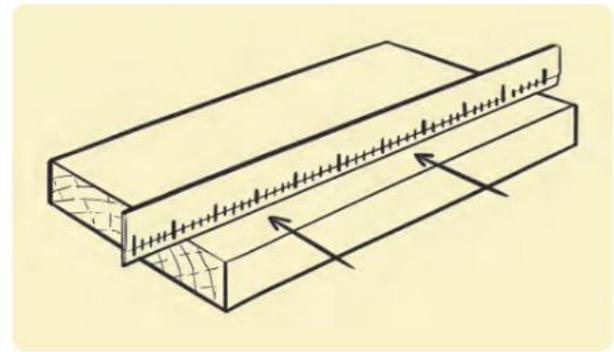

Figure 3.9 A rule is used to test the flatness of the length of the face side.
- 1 Plane the face side perfectly flat. Use a ruler as shown below to test the flatness of the length of the face side. Use a try-square to test the flatness of the width of the face side. Look in the direction of the arrow in Figure 3.9. If there are no gaps under the ruler or try-square, the face side of the timber is flat. Mark the face side with the face side mark.